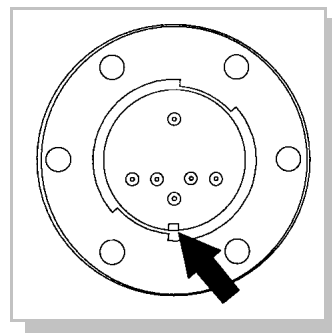
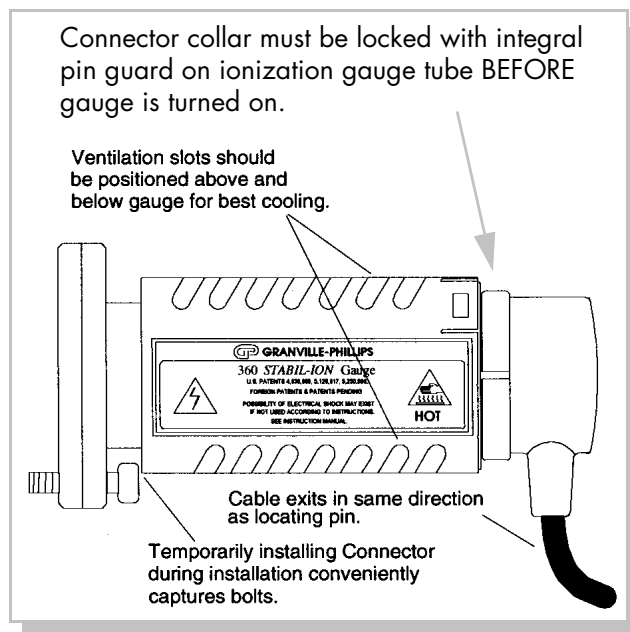

Figure 3-1
Figure 3-3 Stabil-Ion Gauge with Connector and Guard.
- Any mounting orientation may be used. However, to minimize the possibility of excessive temperature at the electrical connector when degassing, do not install the Stabil-Ion Gauges with the electrical connector above the gauge. If it is necessary to install the gauge with the connector on top, degas time must be limited to 10 minutes/hour. See Section 2.1.8 on page 2-16. When mounted horizontally, the ventilation slots in the Guard will be oriented for best cooling if the gauge is installed with the locating key in the pin guard on the bottom. See Figure 3-1 and Figure 3-3. Note in Figure 3-3 that the cable will exit in the direction the locating key is oriented.